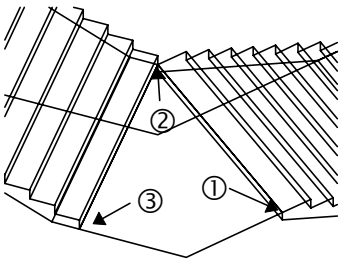

Figure 9
Now is a good time to learn another way of setting up a 3D view ... we want to position ourselves to look down at the gap where we need to construct the landing. Select `View > 3D Views > Viewpoint Presets ...` you should get the adjacent dialogue box on the screen. The left diagram shows the plan viewing angle (with the small line pointing towards the centre showing the line of sight in plan — this is set to NE at the moment) and the right diagram shows the altitude (again, with a small line to show the current line of sight in elevation — 45 degrees). You can re-position the line of sight on either diagram simply by clicking with the mouse. *Experiment until you get a view similar to that shown in Figure 9 (over the page), remembering that this is still just a parallel projection.*
- the first thing to do is set the UCS onto the plane of the landing — that is easily done using the *3Point* option in the *UCS* command (refer to the illustration on page 9) and placing the origin at 1 in Figure 9, the X-axis point at 2, and the third point (on the XY plane) at 3;